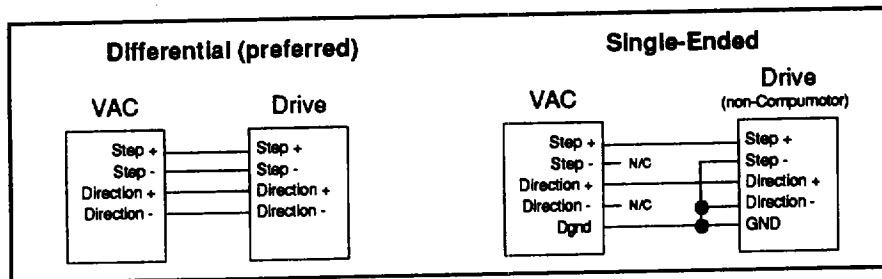

Figure 2-2. Differential vs. Single-Ended Step and Direction Connections
**Signal Type:** Differential Digital pulse (approx 50% duty cycle). *Although differential operation is recommended, single-ended operation is possible using Step + and digital ground connections (see Figure 2-2).*